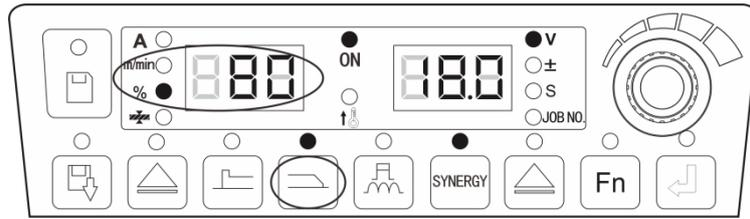

Fig. 3-7 Arc crater parameter percentage setting interface
2. When the "%" indicator is on and the left digital tube is blinking, set the percentage of wire-feeding speed in the crater section with the panel knob. After setting, press the "**Enter**" key to confirm, as shown in Fig.3-7.